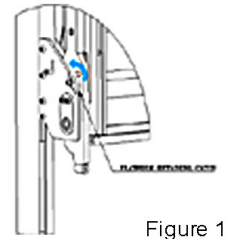

Figure 1
b. Disengage the platform retaining catch on the side of the platform (Figure 1) and pull the platform out and down to horizontal. Press down on the outer edge of the platform to automatically engage the anti-tilt latch.